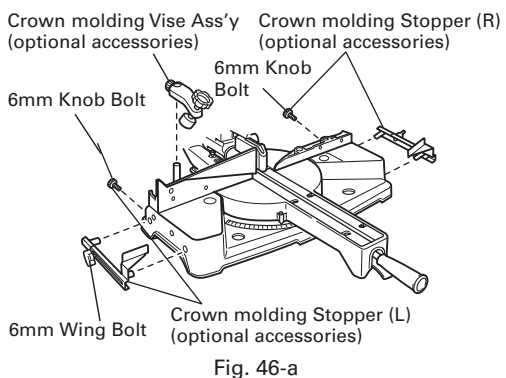

Fig. 46-a
- (1) Crown molding Stopper (L) and (R) (optional accessories) allow easier cuts of crown molding without tilting the saw blade. Install them in the base both-sides side to be shown in Fig. 46-a. After inserting Tighten the 6mm knob bolts to secure the crown molding Stoppers.